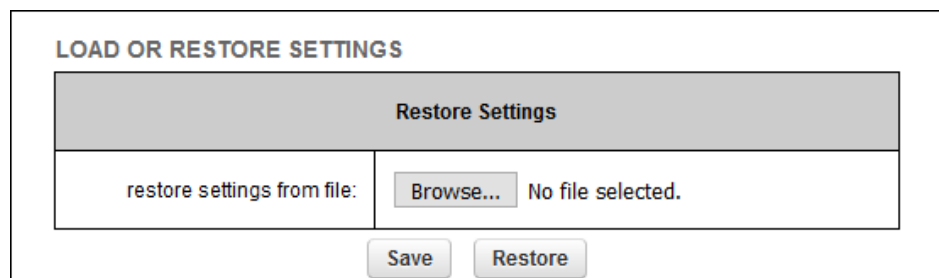

Figure 45. Configurator GUI (LOAD OR RESTORE SETTINGS dialog)
- The **LOAD OR RESTORE SETTINGS** dialog will be shown (Figure 45 \(page 96\)).